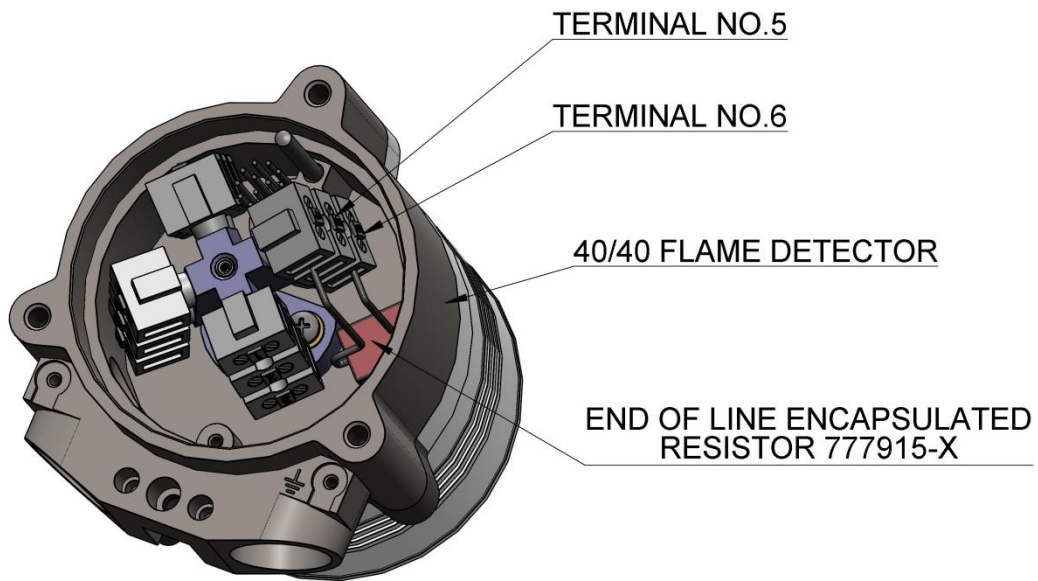
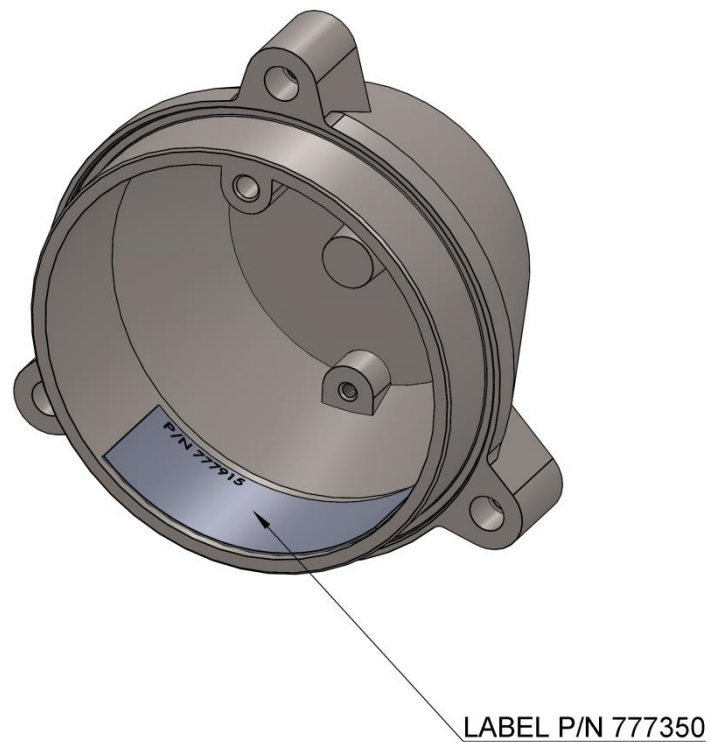

Figure 1: End-of-Line Resistor Installed in 40/40 Series
Figure 2: End-of-Line Resistor Label Installed in the Back Cover
- The resistor will be connected between Terminals 5 and 6 (see Figure 1), and a label will be glued to the detector's back cover (see Figure 2).